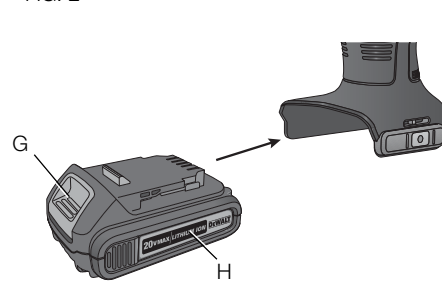

FIG. 3
Charging Procedure (Fig. 3)
- Insert the battery pack (H) into the charger, as shown in Figure 3, making sure the pack is fully seated in charger. The red (charging) light will blink continuously, indicating that the charging process has started.